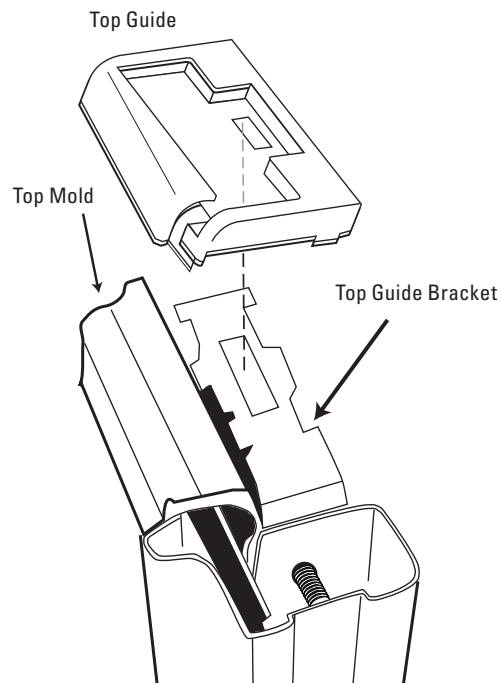

Figure 4
B. For Aspen™, Beaufort™, Cary™, Colonial™, Savoy™, Tundra™, Wilmington™, and York™ models, insert Top Guide into Top Guide Bracket on top of Door Panels by firmly snapping into place (See **Figure 4**).